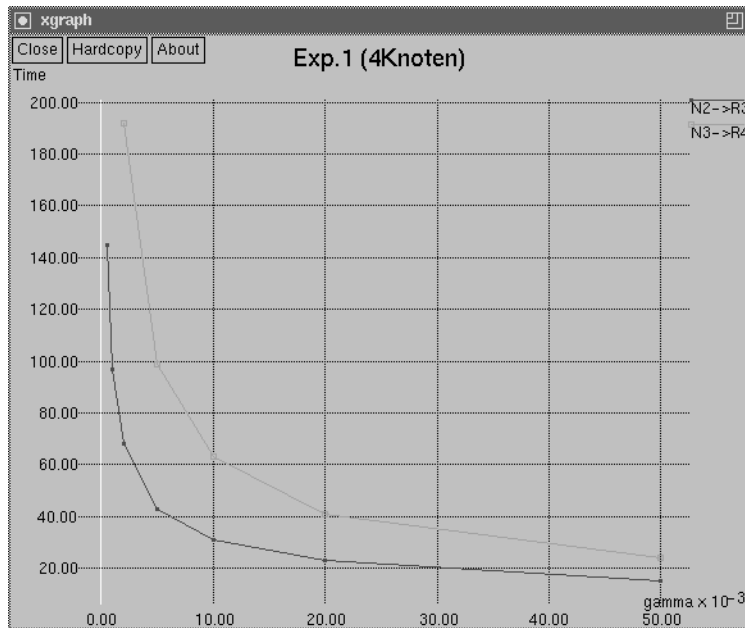

Figure 21: A plot program displaying a strategy.
- OK** Displays the graph (see Fig. 21).